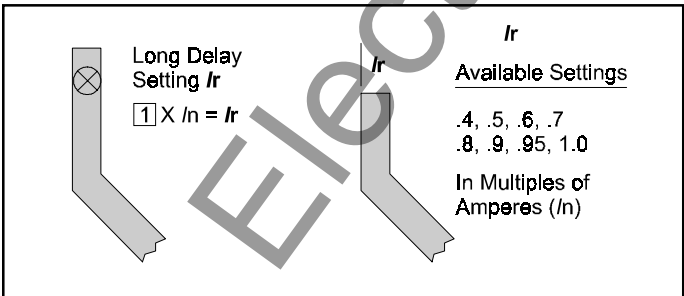

Figure 4.1 Long Delay Current Settings
The available settings, along with the effects of changing the settings, are given in Figures 4.1 through 4.8. Sample settings are represented in boxes (2).
There are 8 available Long Delay Settings, as illustrated in Figure 4.1. Each setting, called (I_r), is expressed as a multiple (ranging from .4 to 1) of the current (I_n).